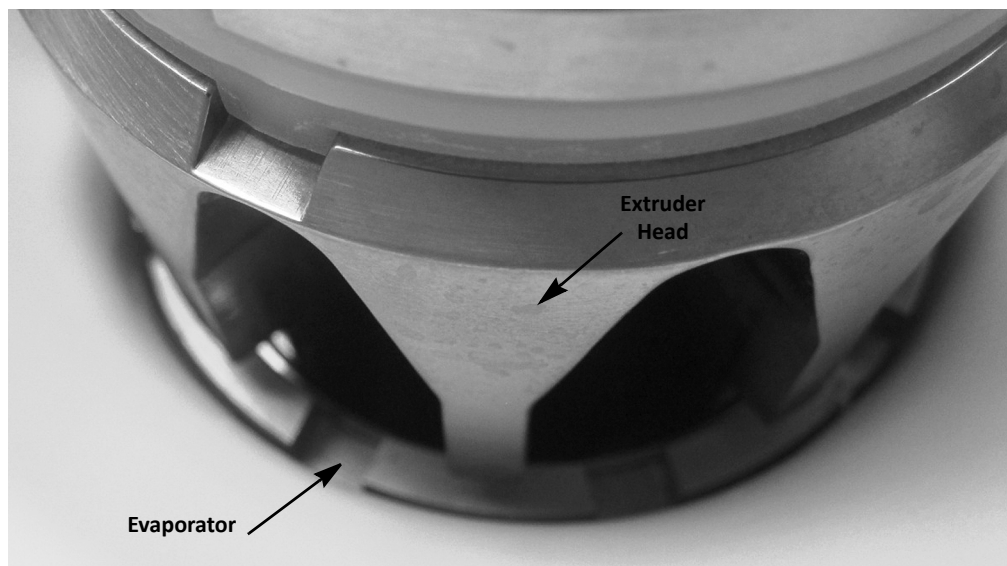

Figure 8. .
2. When the auger is lowered into the evaporator, rotate the auger to engage the motor drive shaft, as shown in Figure 8.